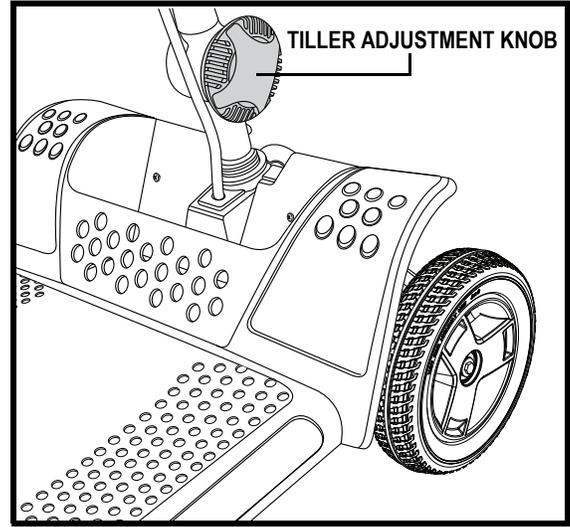

Figure 15. Tiller Adjustment Knob
1. While supporting the tiller, turn the tiller adjustment knob anticlockwise to loosen the tiller. See figure 15.